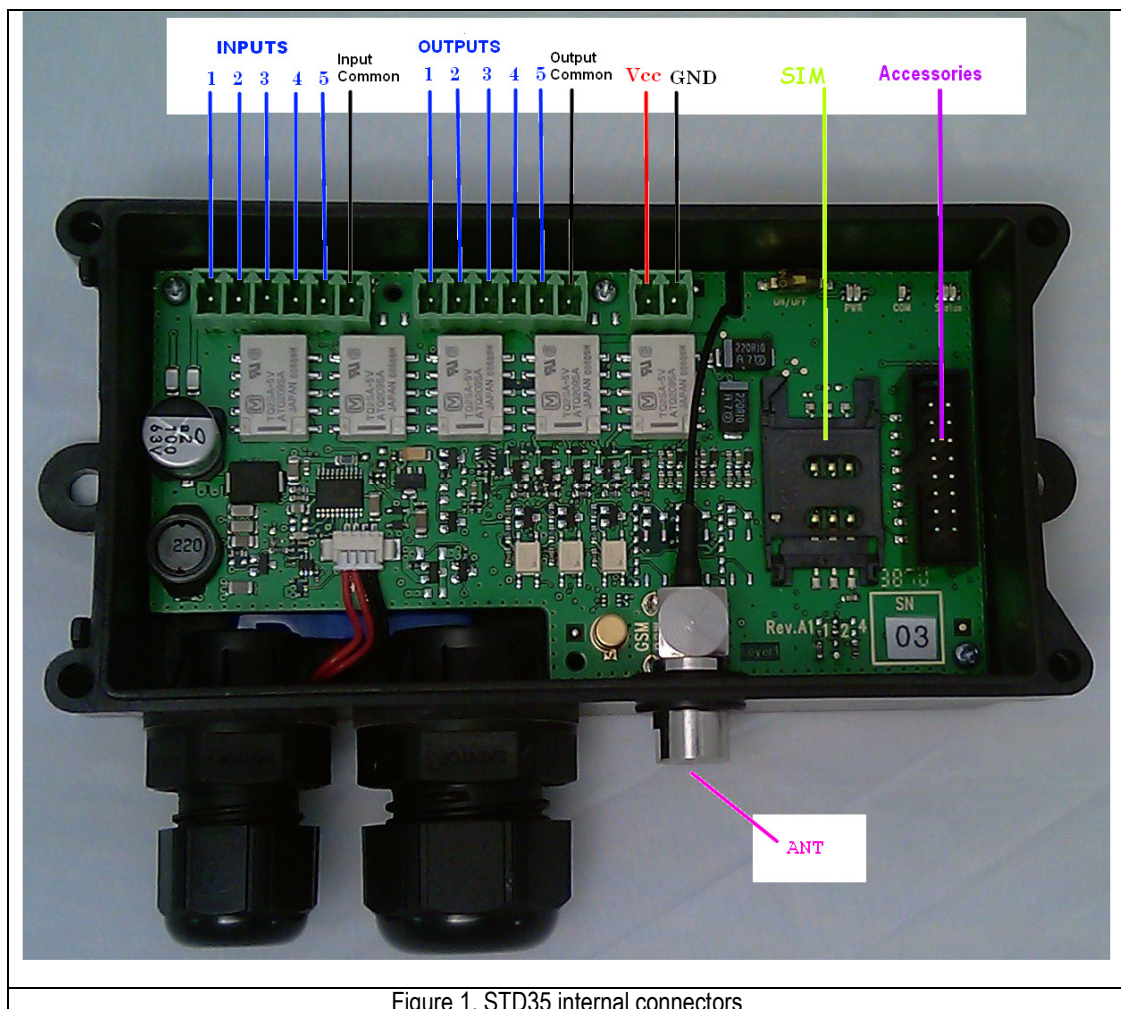

Figure 1. STD35 internal connectors
As described in figure 1 the STD 35 has 3 Green Screw terminals. One connector is for the 5 inputs (3 digital and 2 analog/digital). Another connector is for the 5 outputs which are all driven by relays. And the third screw terminal connector is for the power supply.
**Please always observe the polarity (see Figure 1) and that you have a proper power supply. (see chapter 3."Operating Conditions")**